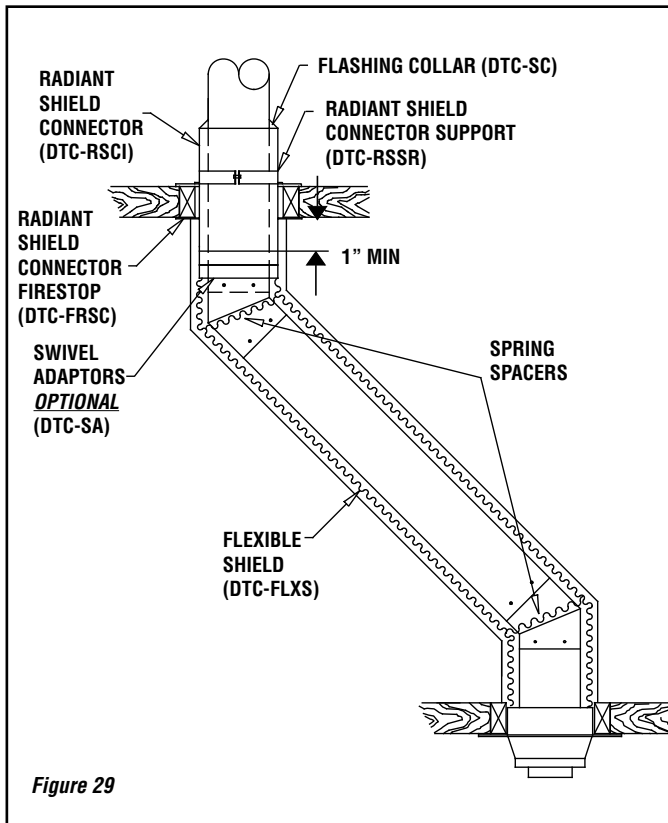

Figure 29
Adjust the height until a min (1") of Radiation Shield Connector exceed the bottom of ceiling (see Figure 29).
- Step 1.** Install the insulated offset elbow on the vertical chimney length. Turn it in the required direction and fasten it to the chimney with the (4)-1/2" metal screws provided.
- Step 3.** Use another elbow to turn the chimney vertically. Again secure the elbow to the chimney length using the (4)-1/2" metal screws.
**Attach a spacer spring around the chimney at each elbow to help keep the flexible shield centered.** (See figure 29) Slide the flexible shield up the chimney and attach it below the ceiling to the Support Radiation Shield using 3 self tapping metal screws. If you are limited in space to screw, install a Swivel Adaptor (ASP) (figure 29) below the Shield Connector (RSC) and one on the top end of the flexible shield.